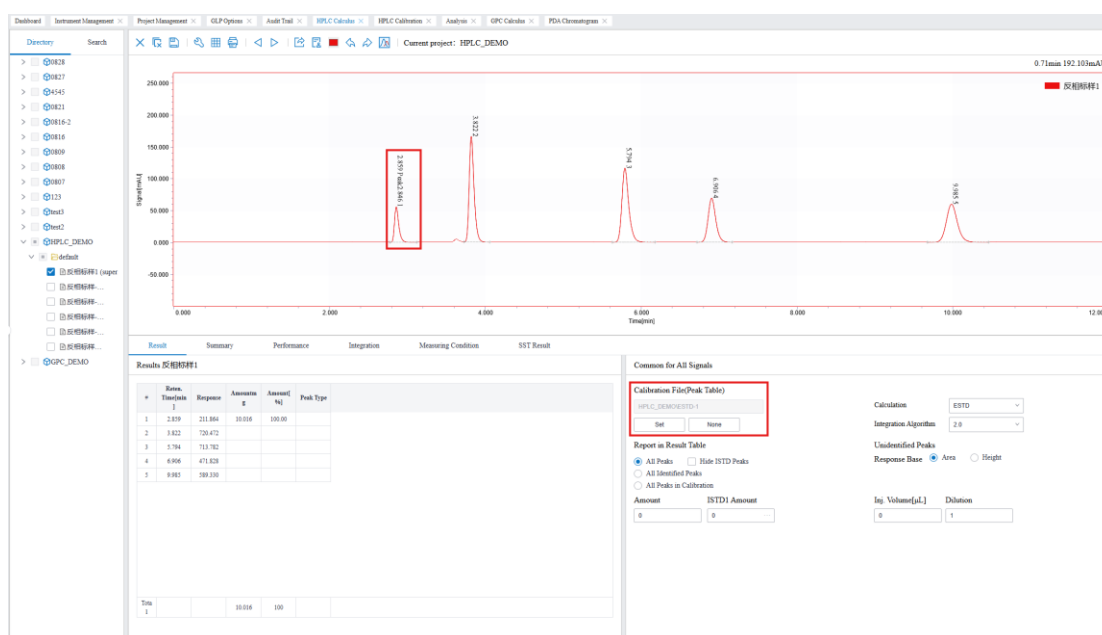

Figure 7-6 External standard method - Use of calibration file
- (1) Open the chromatogram of the test sample and choose whether to modify the integration condition as needed.
- (2) In the right half of the "Result" TAB, click "Setting" in the "Calibration file" column to select the calibration file, and select the type of calibration file and set other calibration parameters in the "Calculation" column.
- (3) After the setting, the quantitative calculation results of each substance in the sample corresponding to the calibration curve will be displayed in the "Result" TAB and "Summary" TAB, as shown in Figure 7-6.